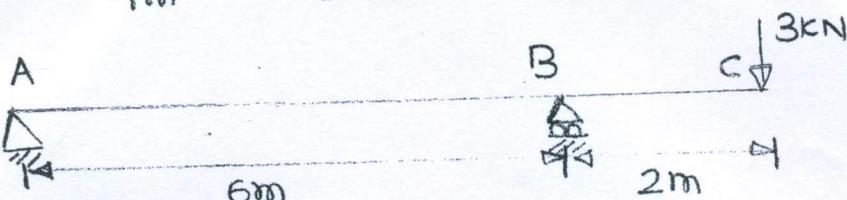

Fig.3
- (A) Determine unknown reactions for a fixed beam as shown in Fig.3. [10]